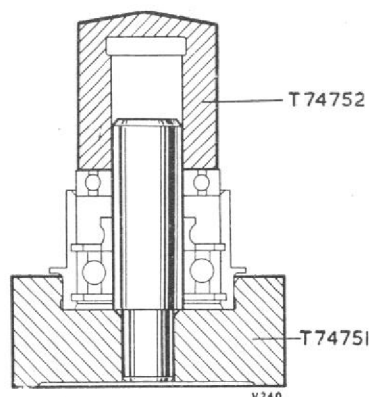
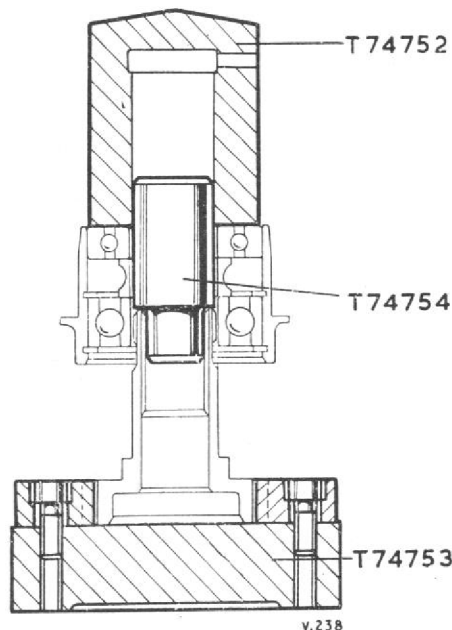

Fig. 3. Pressing the bearing into the housing
Fig. 4. Pressing the housing on to the gear
- (3) Place the bearing housing, flange downwards, on press block T74751.
- (4) Assemble the wider of the two ball bearings over the mandrel of the press block.
- (5) Using adapter T74752, press the bearing into the housing.
- (6) Using Seeger circlip pliers, secure the bearing with a second new circlip (Part No. 13537).
- (7) Assemble the inter-race spacing collar and the narrower of the two ball bearings over the mandrel of the press block.
- (8) Using adapter T74752, press the bearing into the housing (fig. 3).
- (9) Remove the assembly from the press block.
- (10) Place the lower driving gear, gear downwards, on press block T74753.
- (11) Place the guide mandrel T74754 in the bore of the gear.
- (12) Place the housing, flange downwards, over the guide mandrel and, using adapter T74752, press the housing on to the gear (fig. 4).
- (2) Using lifting sling T70454, place the air-intake on build stand T72381 shown in fig. 3, Chap. 24B, and secure it with eight equally-spaced slave nuts and bolts.